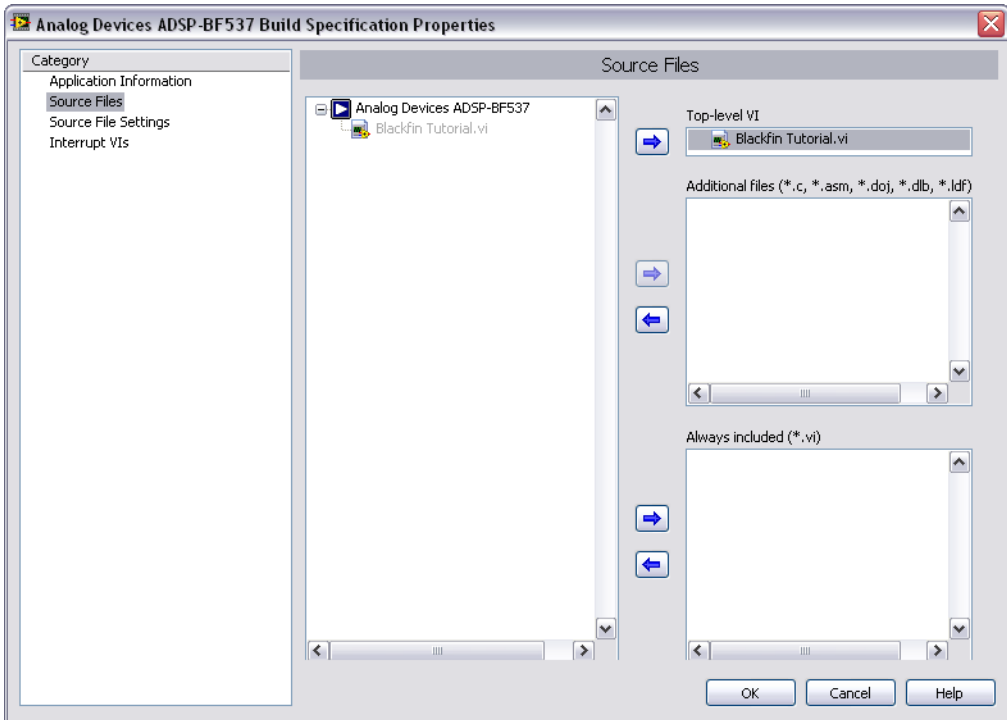

Figure 14. Selecting the Top-Level VI for the Build Specification
6. Select **Source Files** from the **Category** list and select **Blackfin Tutorial.vi** in the source files list. Click the blue right arrow button, shown at left, to move the VI from the source files list to the **Top-level VI** text box as shown in Figure 14.